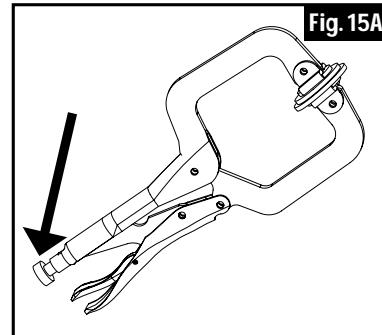

Fig. 15A
**Adjusting the Premium Face Clamp** (Fig. 15A)